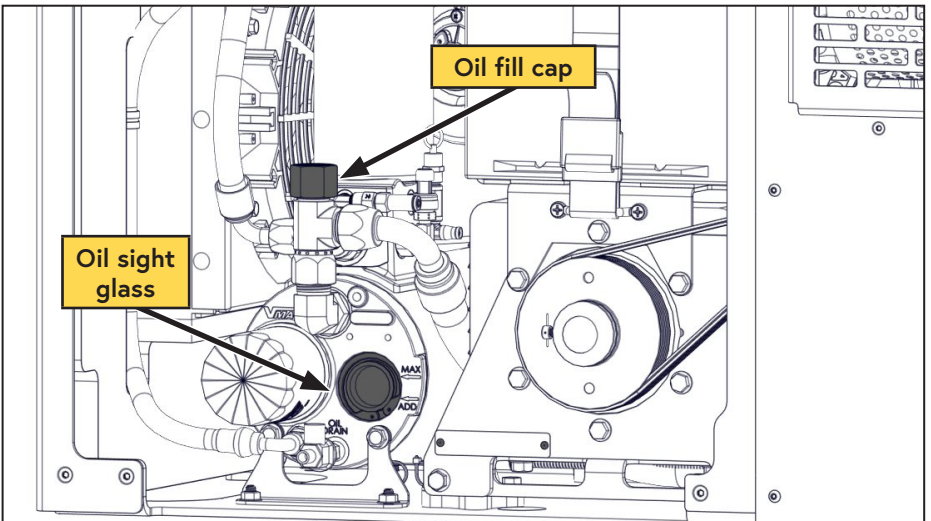

Figure 28 — Fill oil
- Remove the oil fill cap (Figure 28).